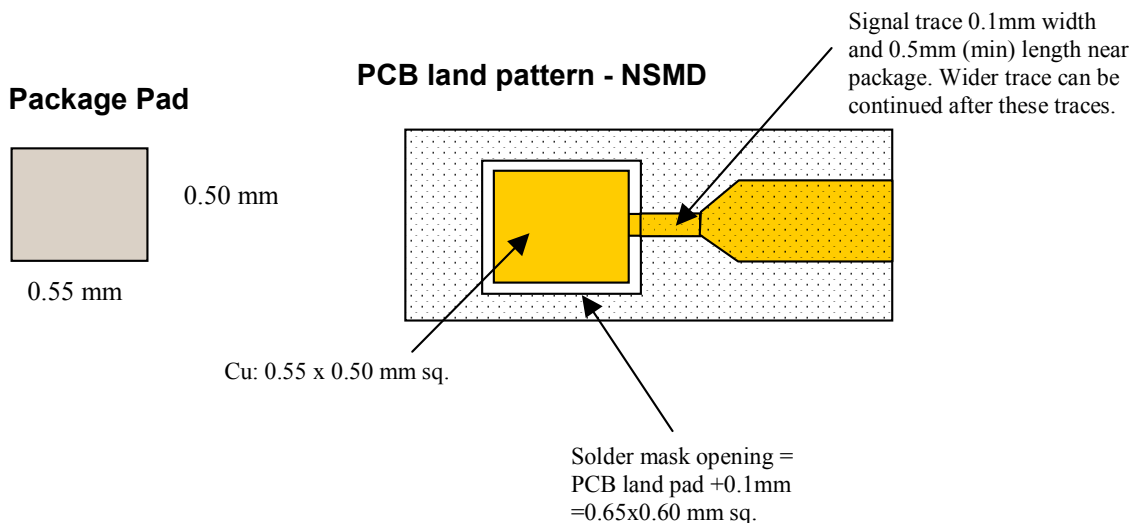
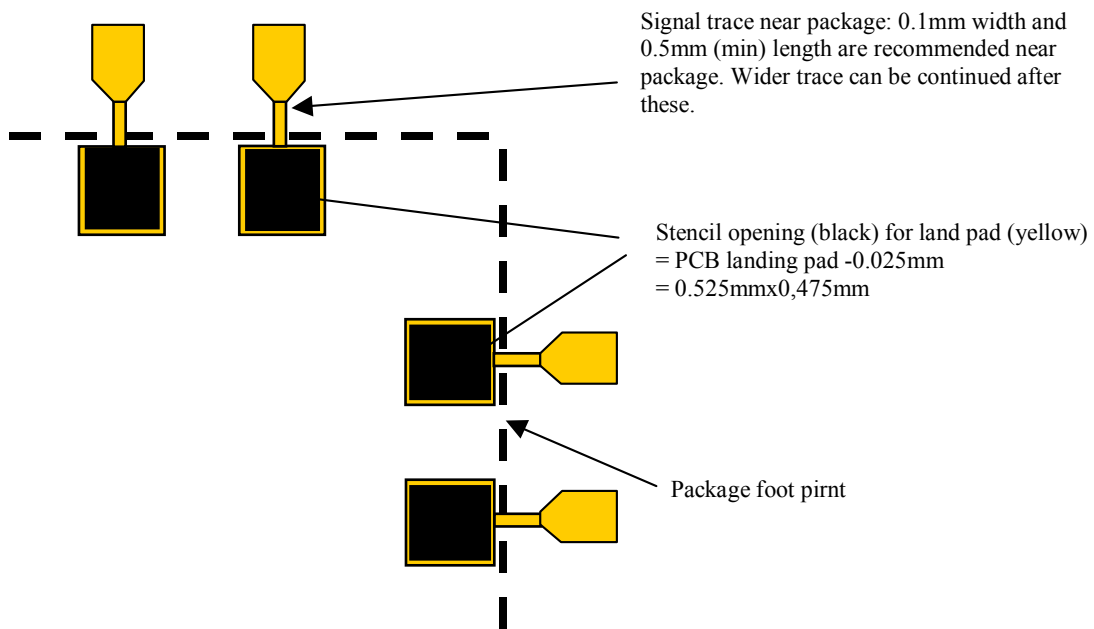

Figure 7. NSMD Solder Mask Design Guidelines
Figure 8. Stencil Design Guidelines
1. NSMD (Non Solder Mask Defined) is shown in Figure 7.
3. Stencil aperture size = PCB land pad – 0.025 mm, as shown in Figure 8 with a 6 mil stencil.
- min. 0.5 mm length for all PCB land pad near package are recommended as shown in Figure 7 and Figure 8. Wider trace can be continued after the 0.5 mm zone.